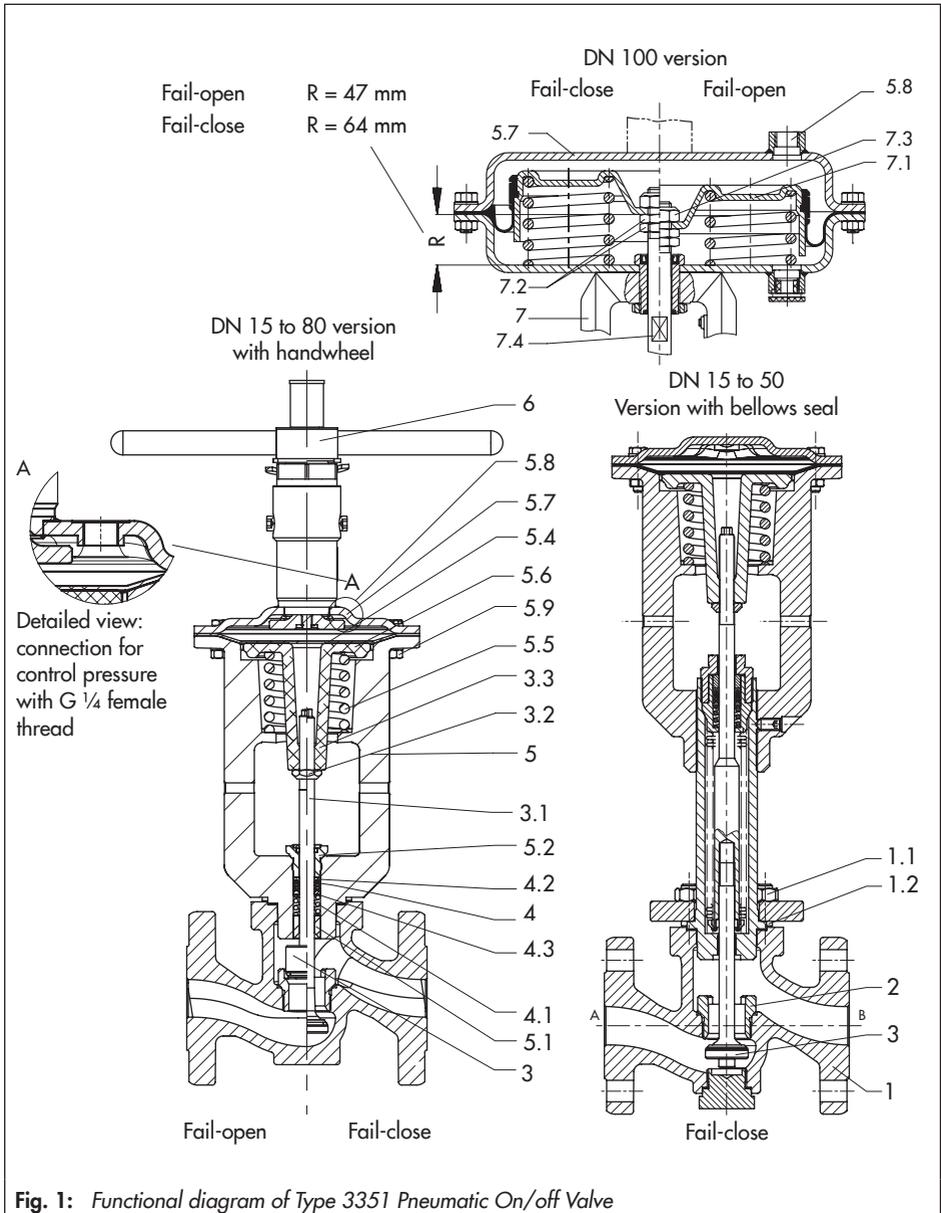

Fig. 1: Functional diagram of Type 3351 Pneumatic On/off Valve
See Fig. 1.
2. Place shim (around 5 mm thick) according to Fig. 1 on the spring plate. Place on mounting device and fasten with three clamping bolts and nuts. Turn the nuts until the spring plate (5.6) is evenly loaded slightly. This causes the plug (3) to detach itself from the seat.
5. Remove valve bonnet (5) from valve body and carefully pull it up, for fail-close version over the plug stem, and for fail-open version together with the plug stem.
5. Screw nut and lock nut onto the plug stem according to the dimension R (see Fig. 1) and tighten. On doing so, make sure the plug rests on the seat.